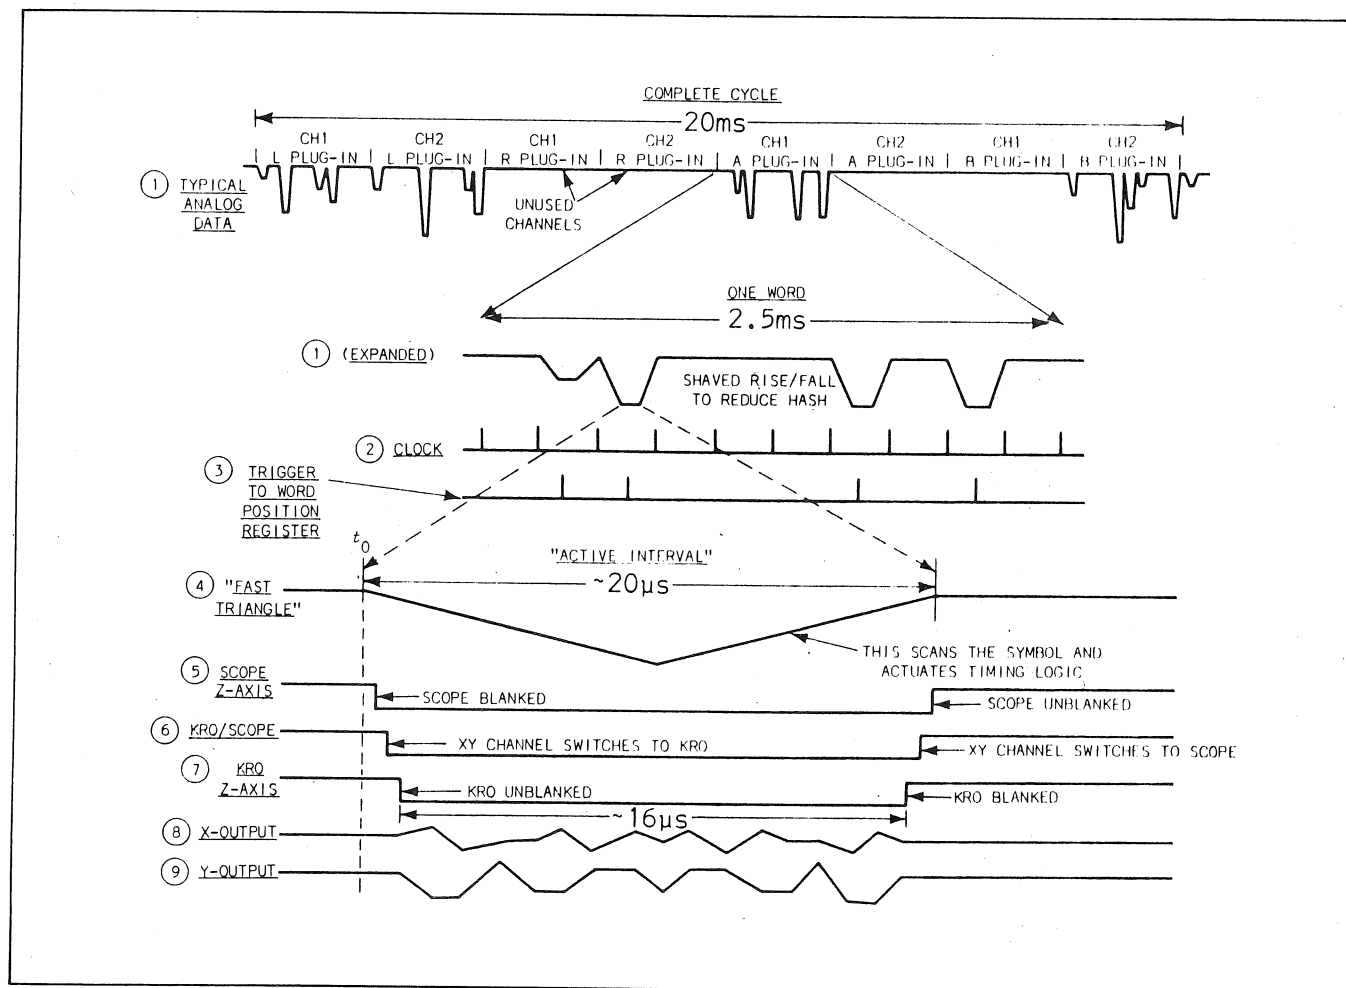

Figure 11. Some timing relationships.
Some of the timing relationships of the above waveforms are shown in Figure 11. The illustration at the top (1) depicts one complete cycle of the readout system through all 8 channels. Then, 1 particular channel is expanded to show the timing relationships of the signals generated.